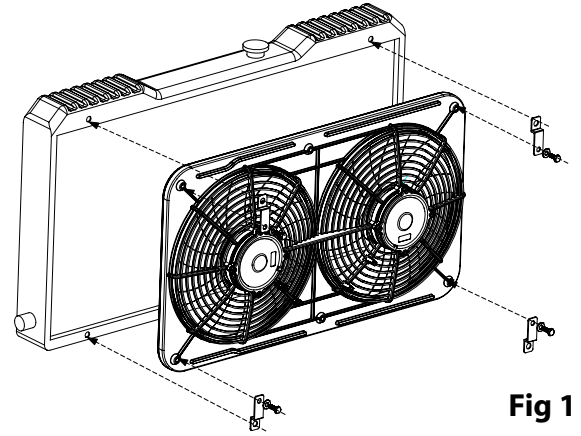
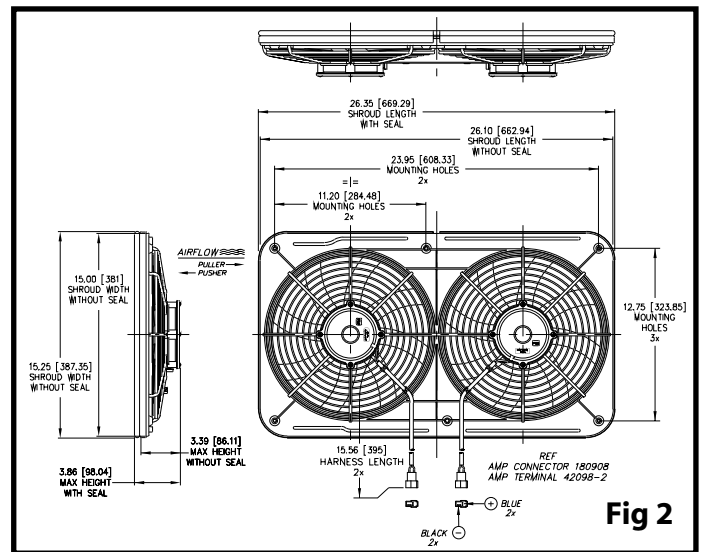

Fig 1
Fig 2
- We do not recommend the use of nylon tie kits or any other "through core" mounting methods for this fan assembly. The 225 watt motors used in this dual fan assembly are too heavy and produce too much starting torque to be supported by the radiator fins. We recommend purchasing a prefabricated mounting kit **MARADYNE® MFA107** or fashioning metal brackets that will attach to at least four of the six 1/4 - 20 nylon reinforced nuts pressed in the back of the shroud and then bolted to the U-channels of the radiator/heat exchanger (See Fig 1.). 1" X 1/4-20 bolts are recommended to attach the brackets to the shroud. Bolts must **NOT** be long enough to contact the radiator/heat exchanger. See Fig 2 for bolt pattern.